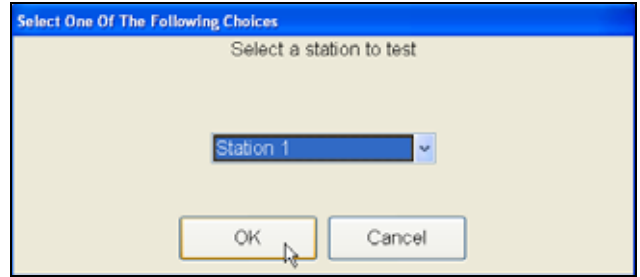

Figure 7.4.3
5. Select a single station only to test (Figure 7.4.3).